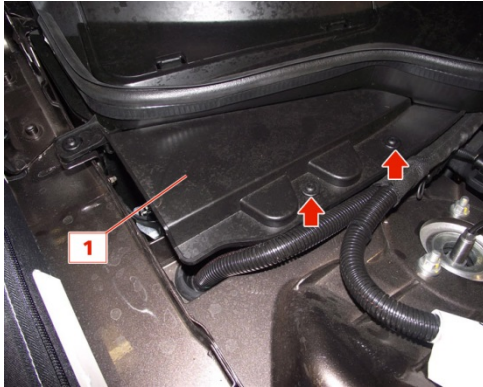

Fig.3
- c. Remove the l/s and r/s inspection covers. (Fig.3)